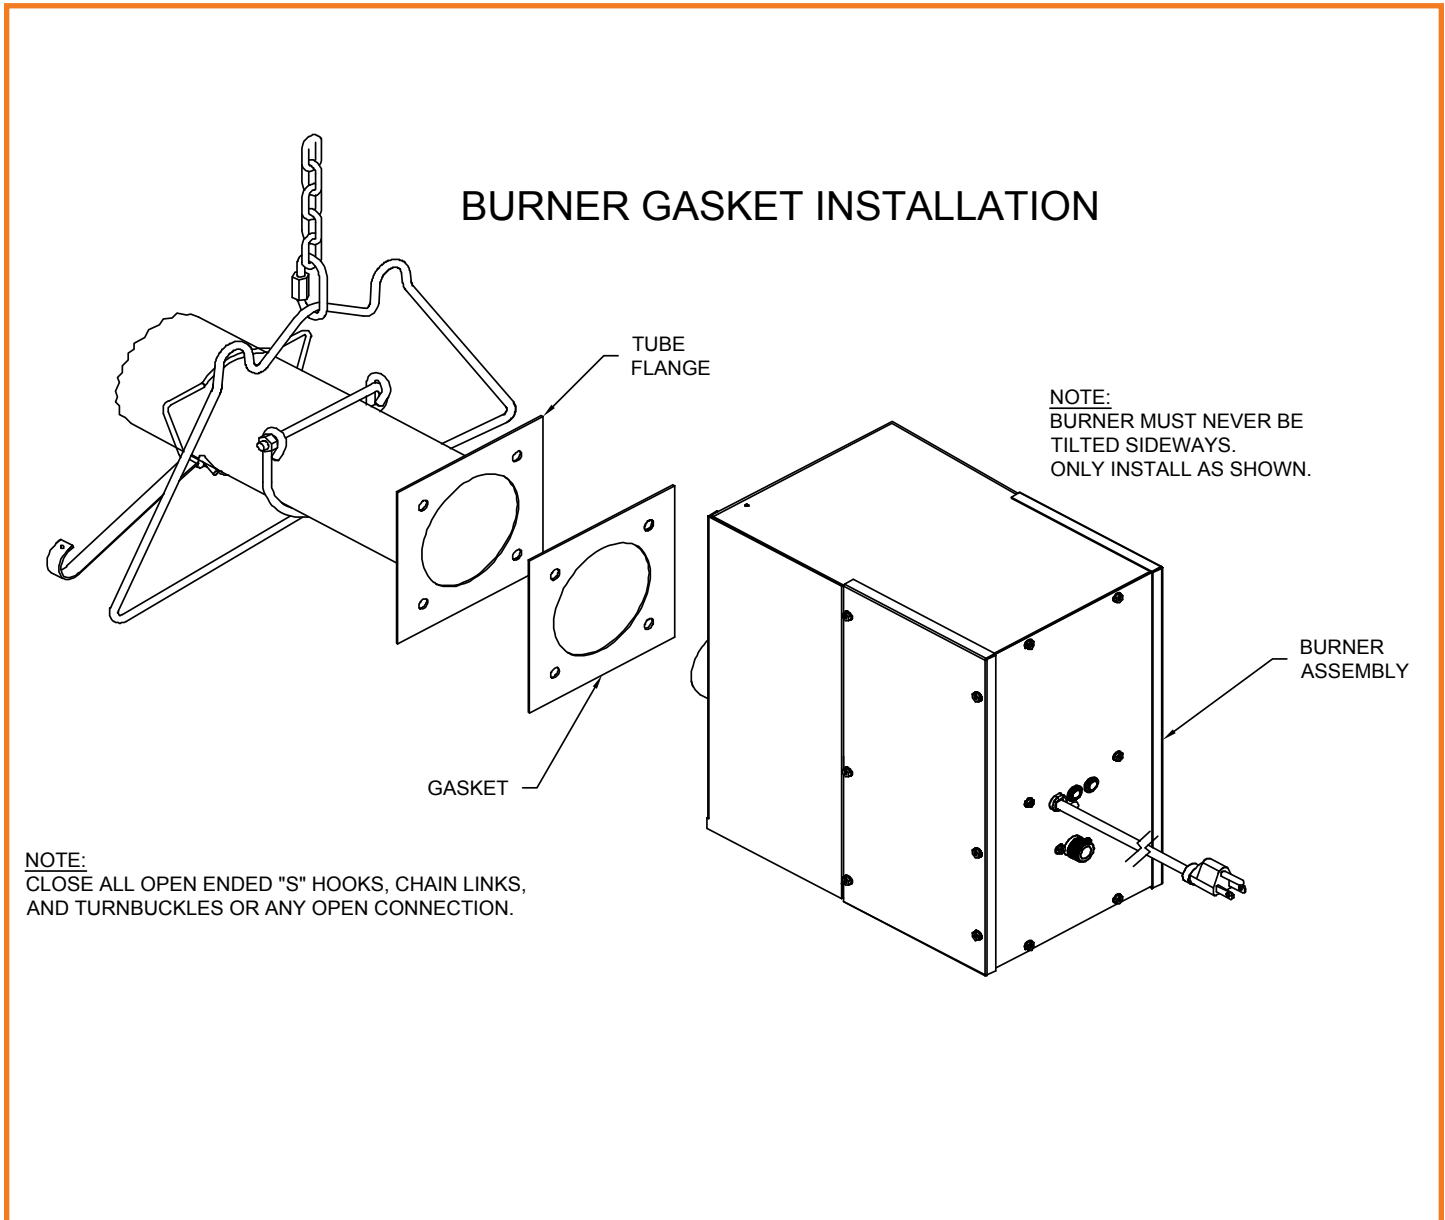

Figure 12: Burner Gasket Installation
- Locate the burner gasket provided, bolt the burner in place on the tube flange with provided hardware. Burner must never be installed in a tilted position. The sense electrode of the burner cup should be in the 12 o'clock position (Figure 12).